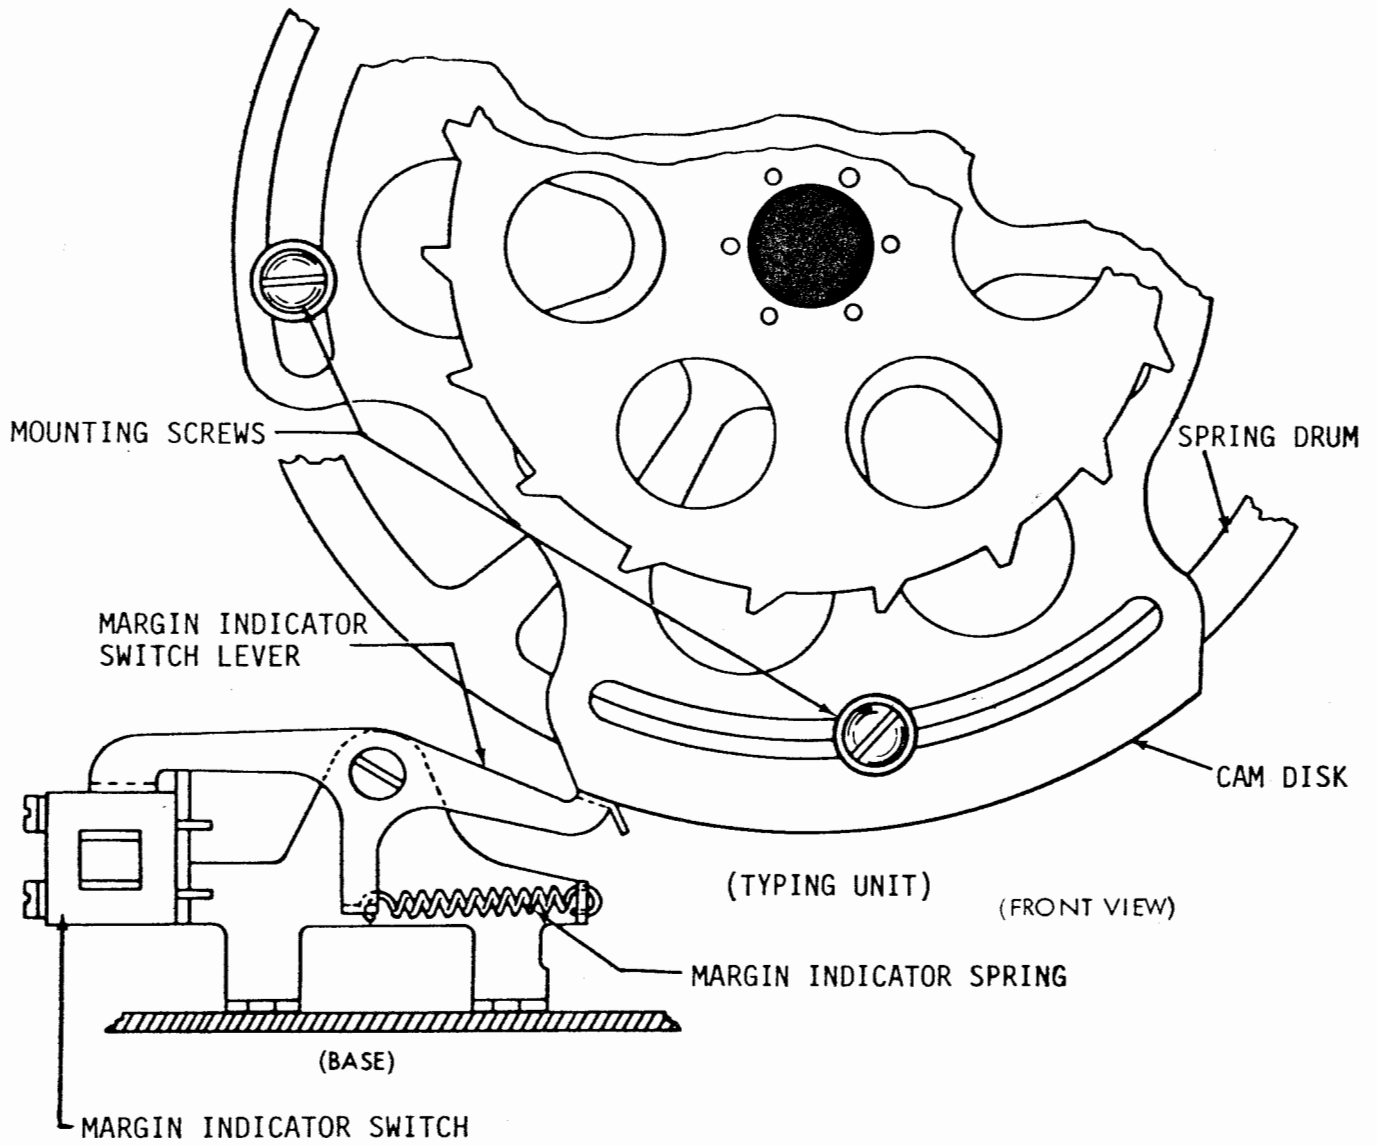

Figure 6-90. Margin Indicator Lamp
(12) Margin Indicator Lamp. Adjust margin indicator lamp as follows:
- (a) Refer to figure 6-90.